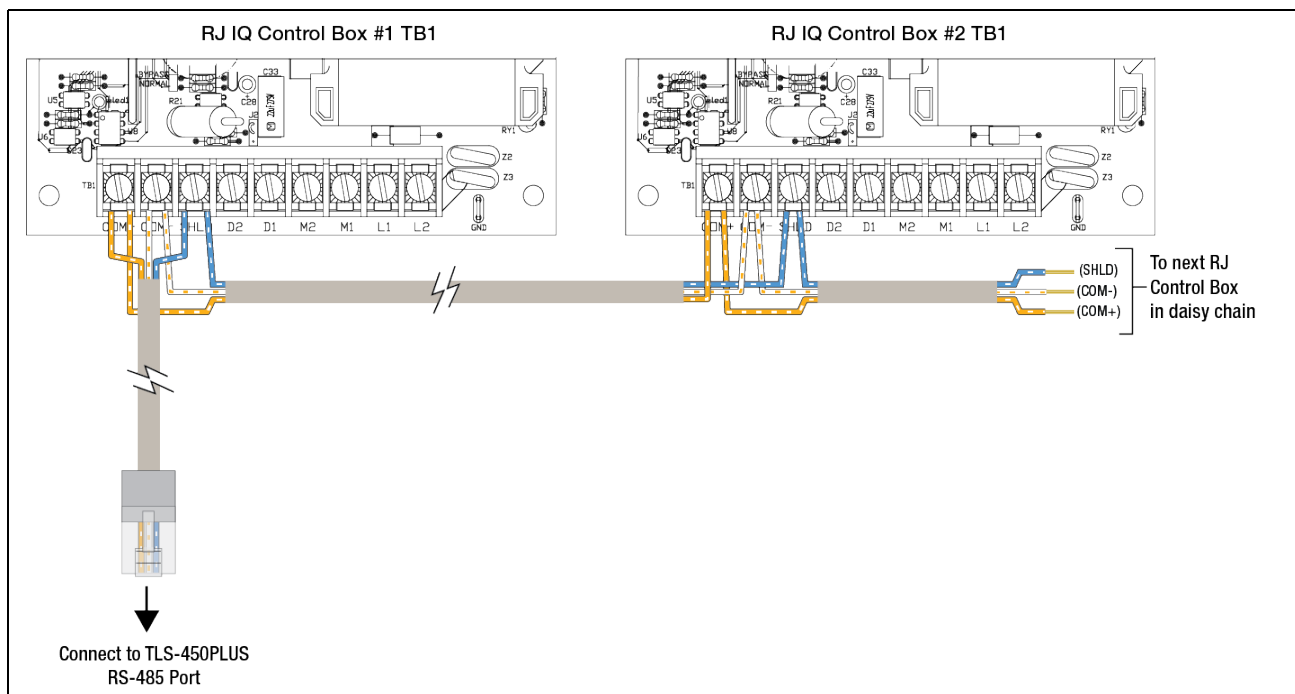

Figure A-11. Attaching Comm Cables To RJ IQ Control Boxes (Belden 3106A Cable Shown)
1. Open each IQ Control Box cover and attach the RS-485 comm cable wires as shown in Figure A-11.